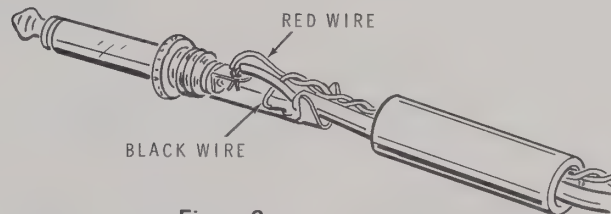

Figure 6
- () As shown in Figure 6, connect the remaining ends of the twisted pair of wires to the key plug you normally need with your transmitter.